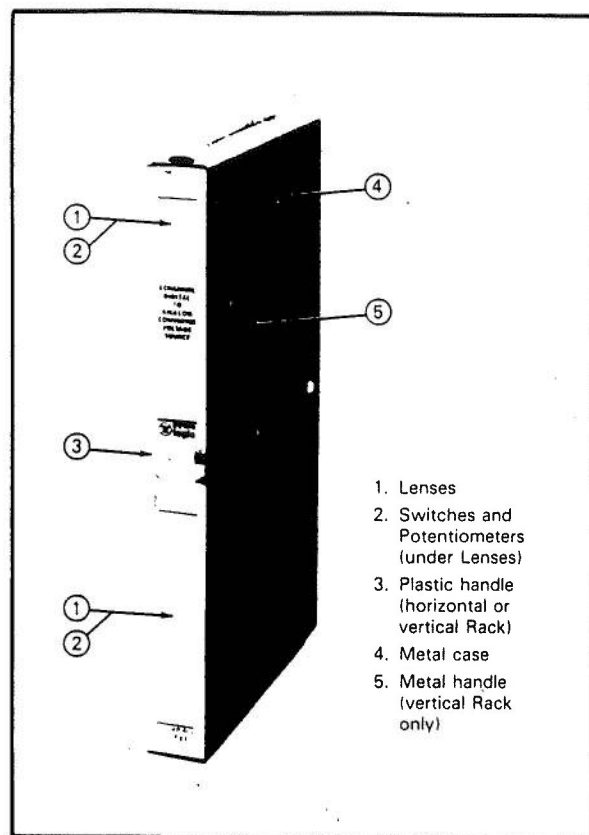

Figure 1 — 4-Channel Digital-to-Analog Output Module
Step 1 — Screw the metal pull handle onto the side of the Module. If desired, the plastic pull handle may also be installed between the Module Lenses. Fix the color-coded adhesive label to the front of the plastic pull handle (See Figure 1.)
Step 1 — Slide the plastic pull handle into the slot between the Lenses on the front of the Module. Fix the color-coded adhesive label to the front of the plastic pull handle. (Do not install the metal pull handle — it is designed for use with the Vertical I/O Rack only.) See Figure 1.